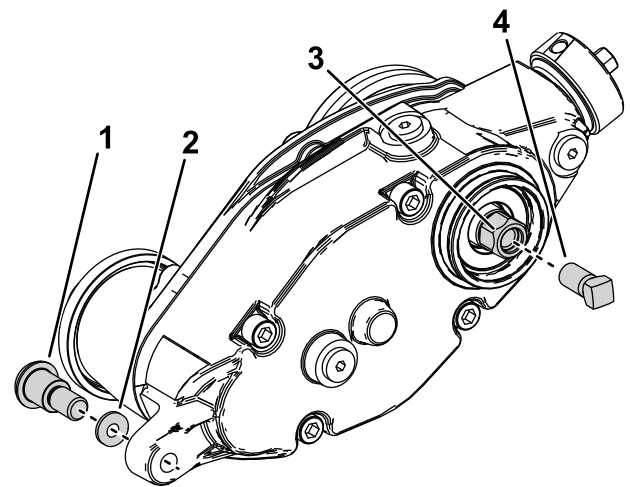

Figure 25
5. Install the reinforcement screw (Part No. 1-803022—sold separately) to the internal threads of the groomer drive hex head and torque to 13.5 N·m (120 in-lb) as shown in Figure 25.
6. Remove the groomer drive box from the cutting reel by turning the groomer drive hex-head (Figure 25).